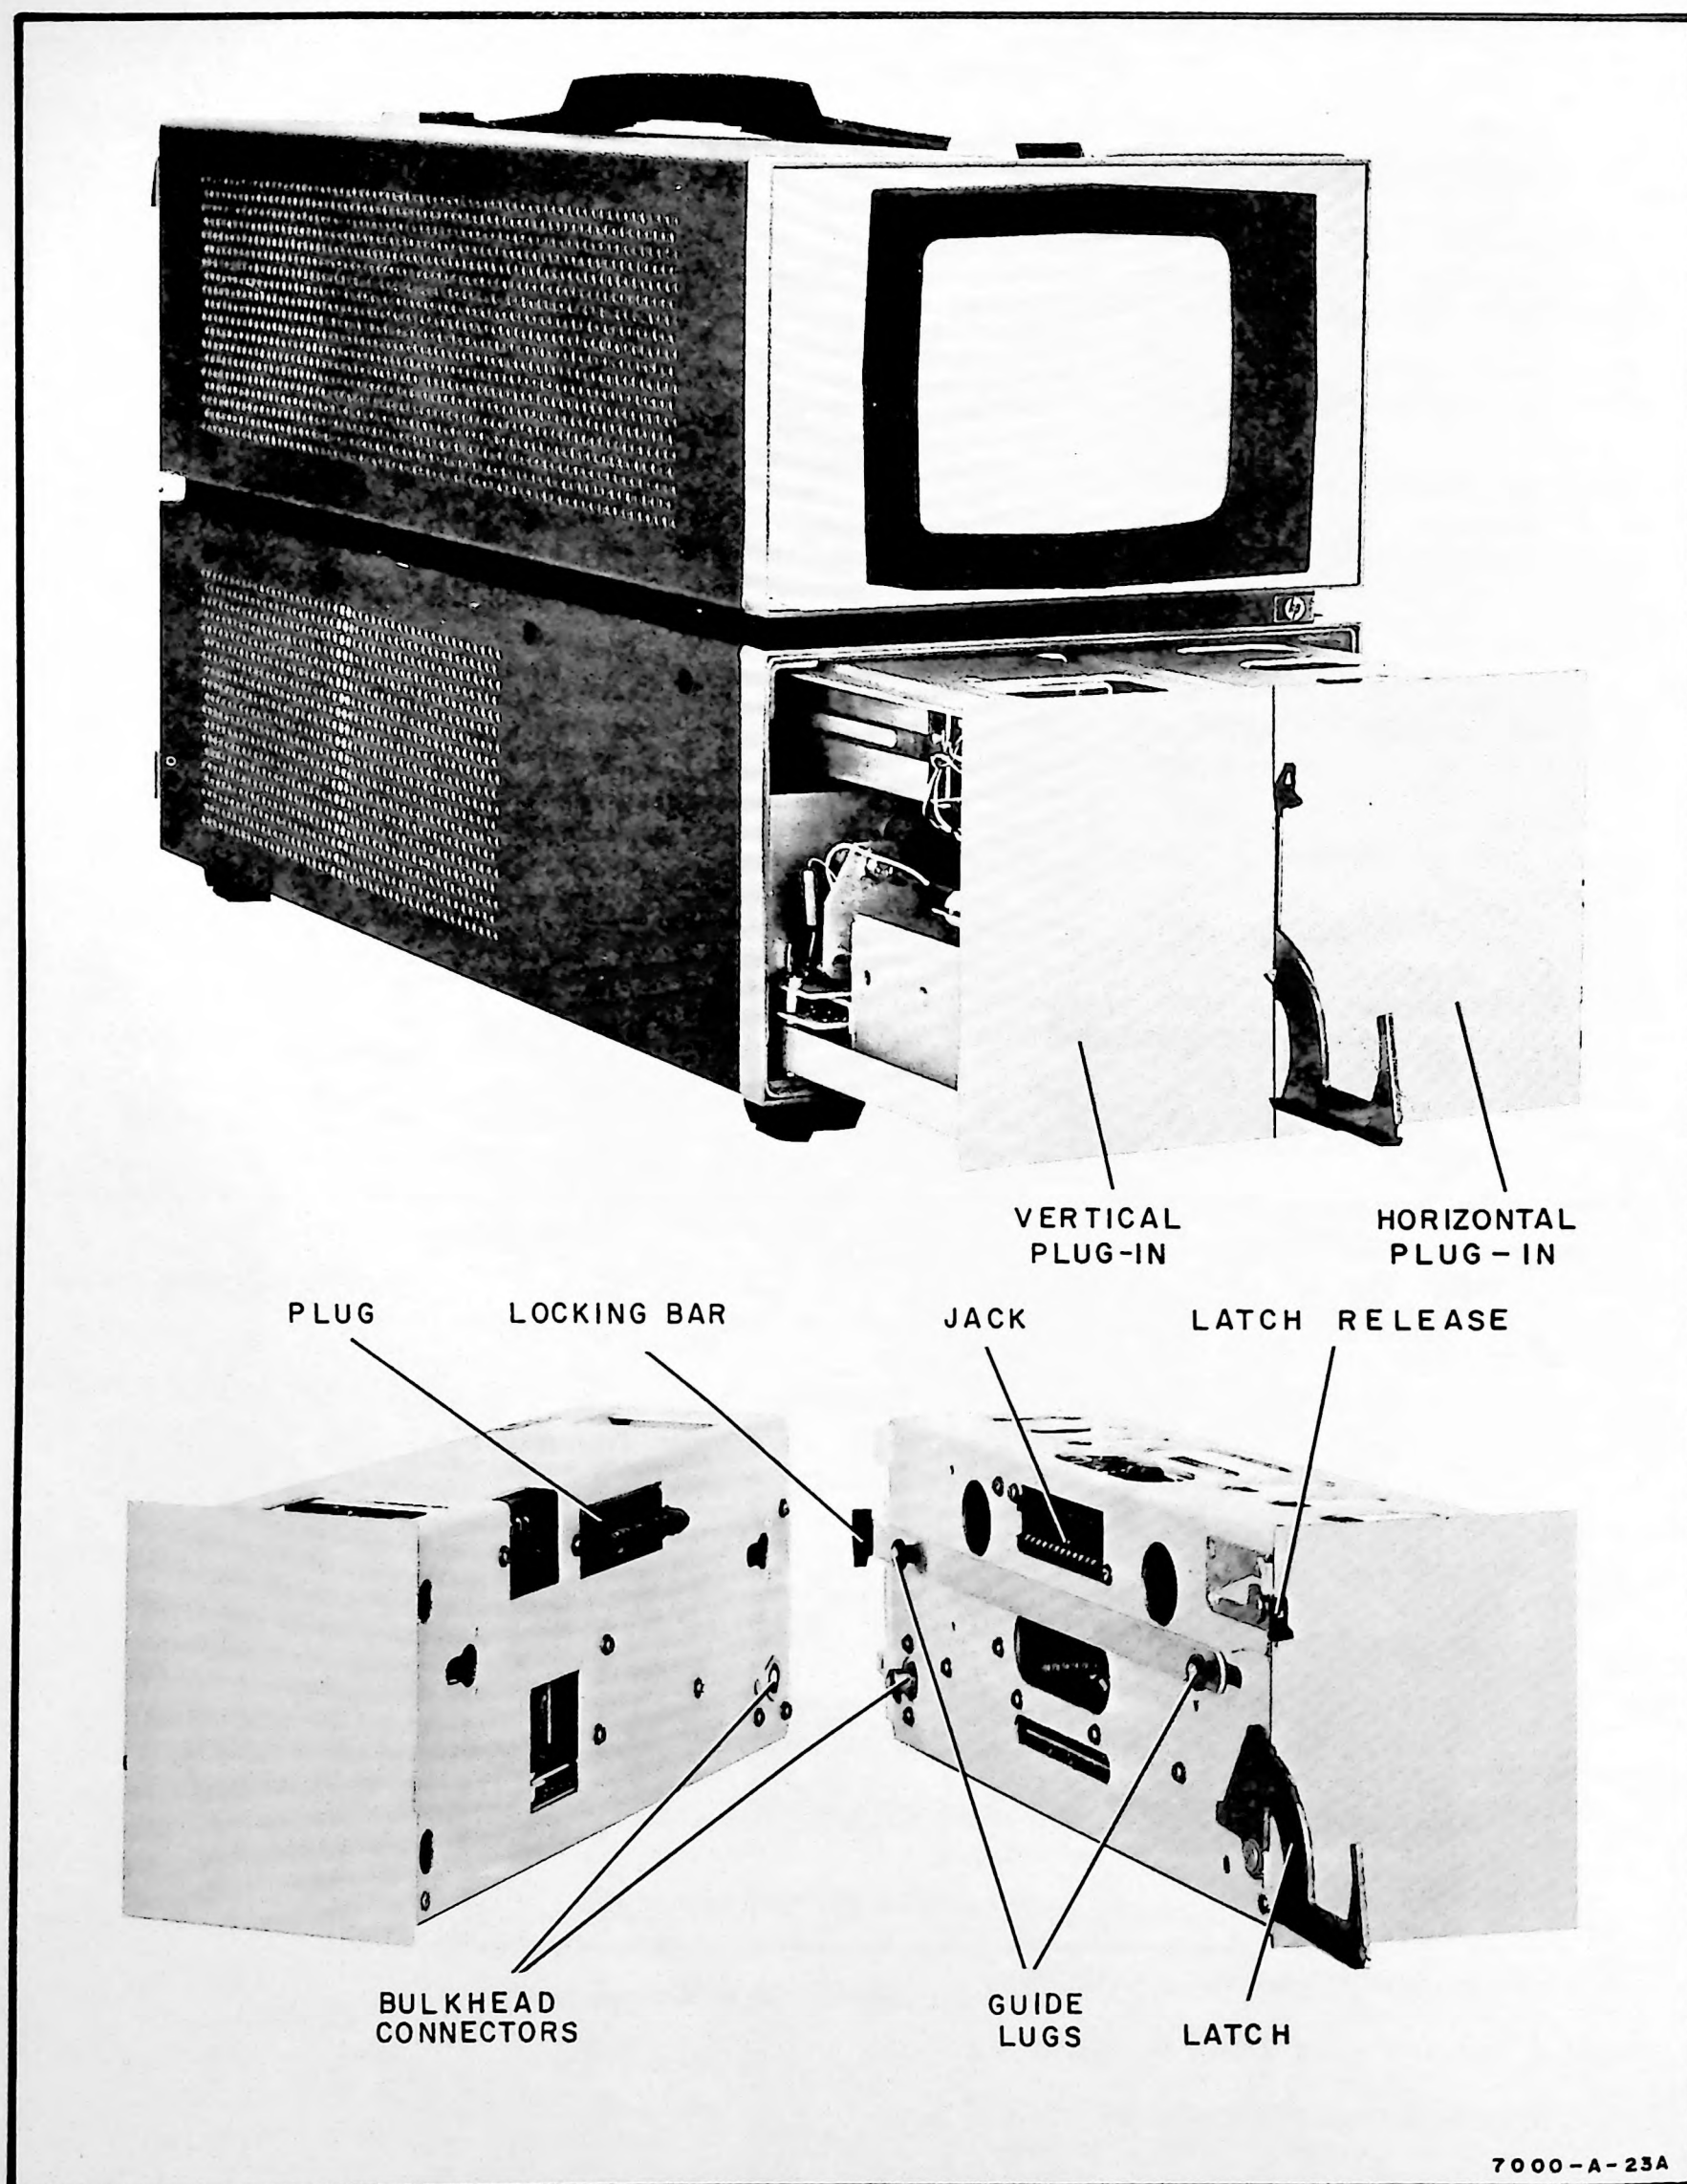

Figure 2-1. Plug-in Mating
- a. Move locking bar to rear (see figure 2-1).